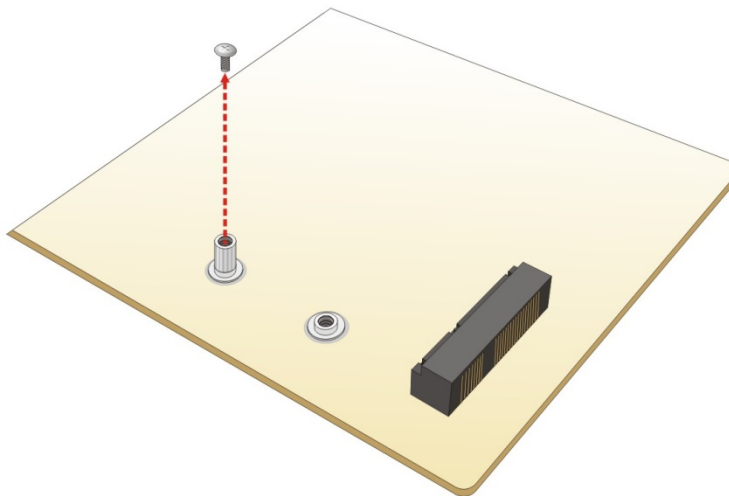

Figure 3-7: Removing the Retention Screw
Step 4: Remove the retention screw as shown in **Figure 3-7**.